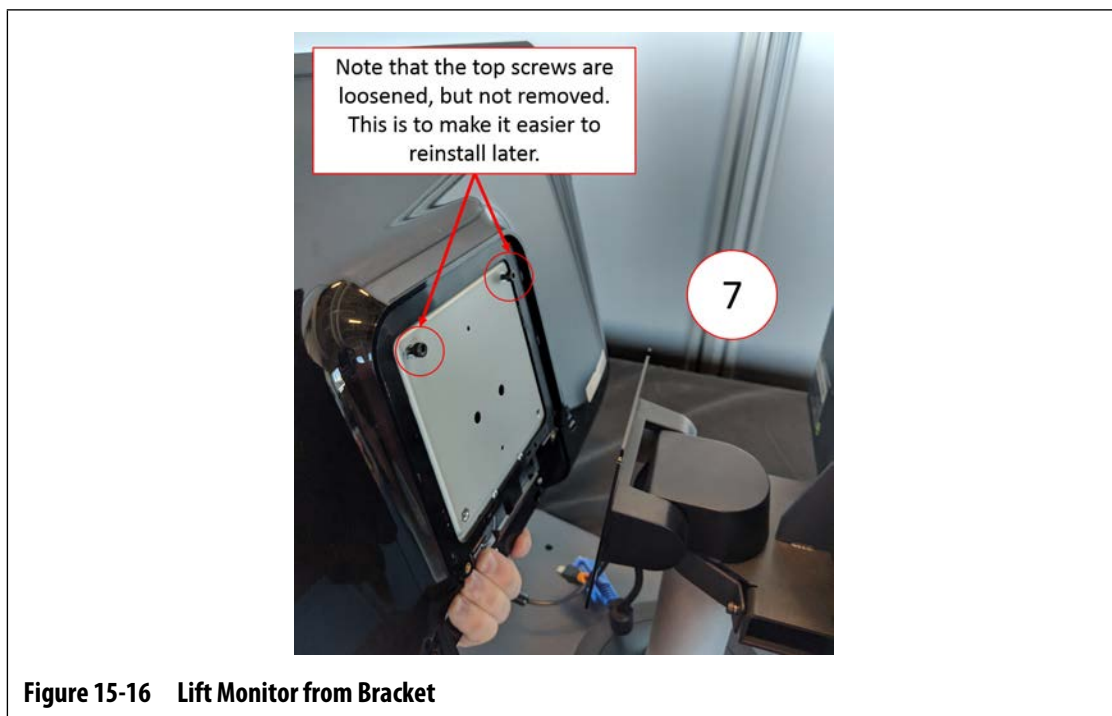

Figure 15-16 Lift Monitor from Bracket
10. Securely hold the touch monitor and slide it up until the screws have cleared the upper mounting slots and pull forward to remove the touch monitor from the mounting bracket. Refer to number 7 in Figure 15-16.